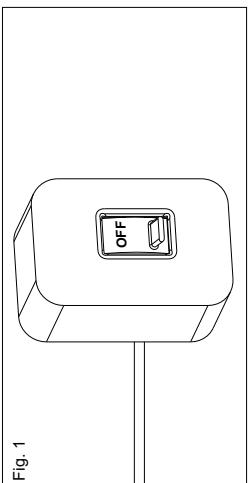
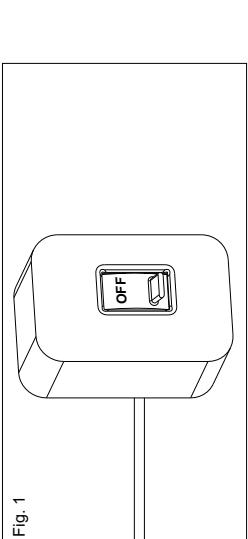

Fig. 1
Fig. 2
STEP 2: Take off the power supply (Fig. 1), release the motor and set the gate in the half open position (Fig. 2).